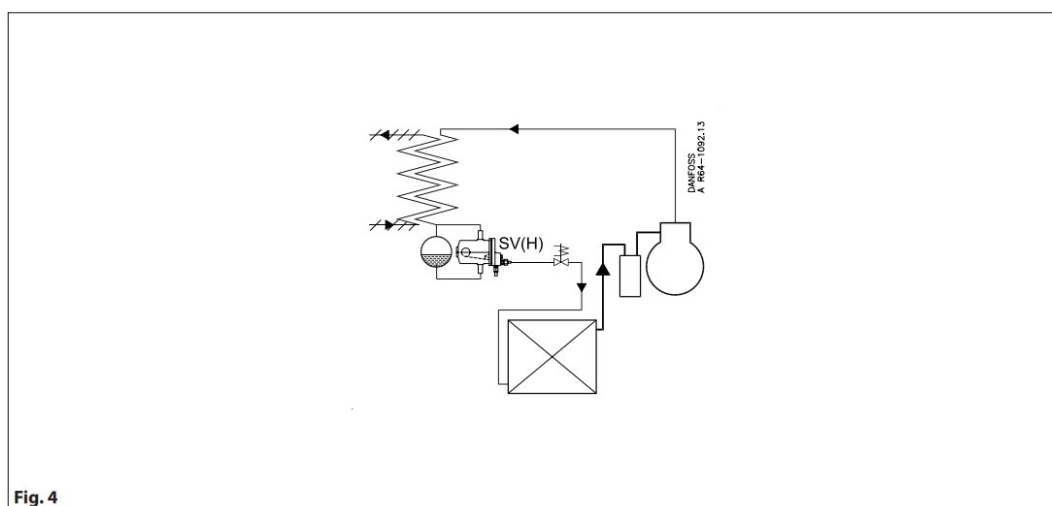

Fig. 4
When an SV(H) is used as a separate expansion valve (fig. 4), the liquid outlet line must be connected to nipple C (delivered separately).